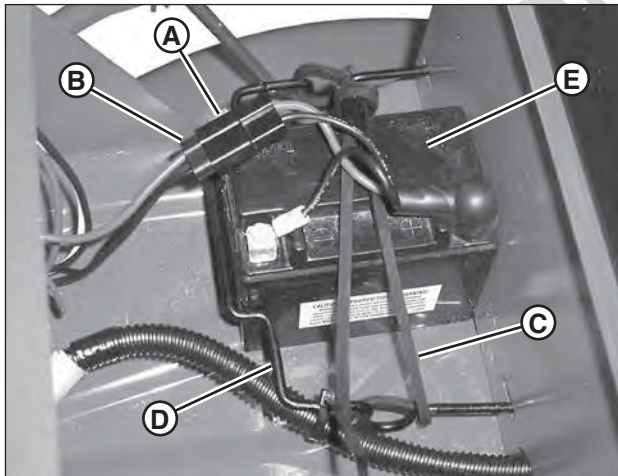

Figure 32: Battery (sealed lead acid type)
2. Disconnect the battery harness (A, Figure 32) from the main harness (B).
2. Using a manufacturer-approved battery charger (not supplied), plug the connector on the battery charger (not shown) into the battery harness connector (A, Figure 32).
2. Install the battery (E, Figure 32) into the battery compartment, orientating it in the wireform (D) as shown.
3. Secure the battery with the battery strap (C), hooking the loose end onto the wireform. Be sure to pass the strap under the battery harness wires.
4. Connect the main harness (B) to the battery harness (A).